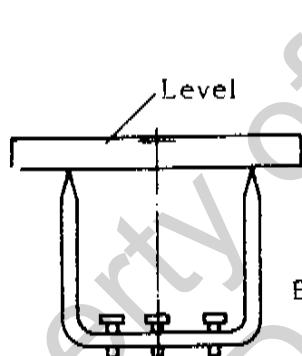

Fig. 1
- * The wheel balancing base must be levelled (Fig. 1)